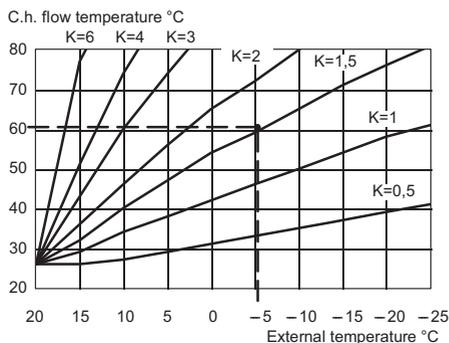
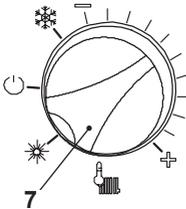

Fig. 7.9
Fig. 7.13
The curves given in the chart of Fig. 7.9 represent the c.h. flow temperature setting as a function of the external temperature measured by the external temp. probe.
The relationship between the external temperature and the c.h. flow temperature is represented by the coefficient K (Fig. 7.9) that can be set between 0 and 6 as hereafter explained.
E.g. to obtain a flow temperature setting of 60°C when the external temperature is -5°C, K must be set to 1,5 (dashed line in Fig. 7.9).
After setting the coefficient K, position the knob 7 as shown in Fig. 7.13 in order to obtain the c.h. flow temperature accordingly with the chart of Fig. 7.9.